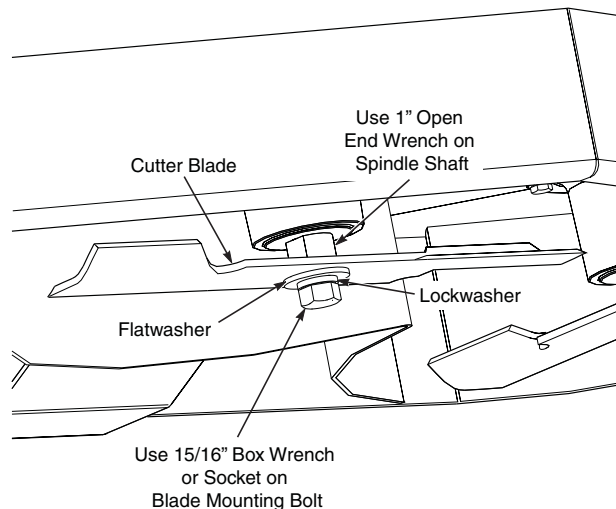

Figure 1. Blade Removal
3. Remove the original cutter blades from the cutter deck. To remove the cutter blades from the spindles use the Scag Blade Buddy Accessory (p/n 9212) or install a 1" open end wrench on to the flats provided on the spindle shaft. This will allow you to hold the spindle in place and prevent it from rotating as you remove the blade mounting bolt. Use a 15/16" box wrench or socket to remove the blade mounting bolt. Be sure to retain the bolts, lockwashers and flatwashers. This hardware will be needed when installing the mulching blades in step number 9. See Figure 1.